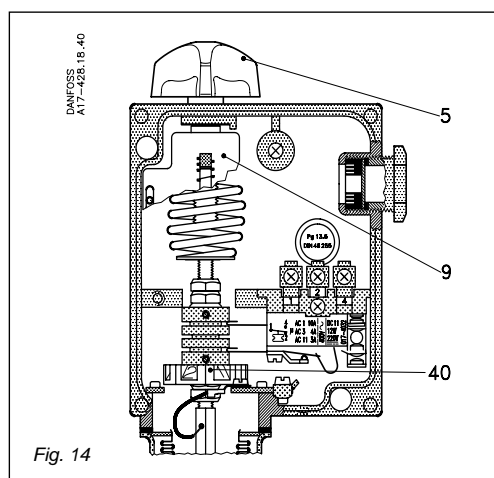
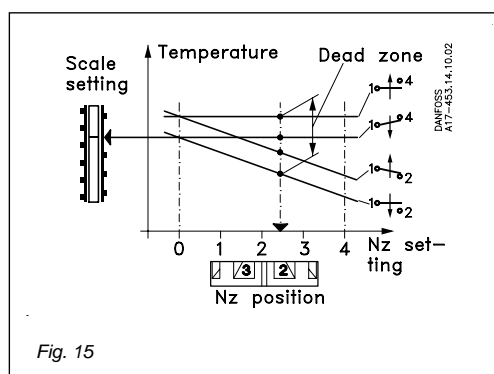
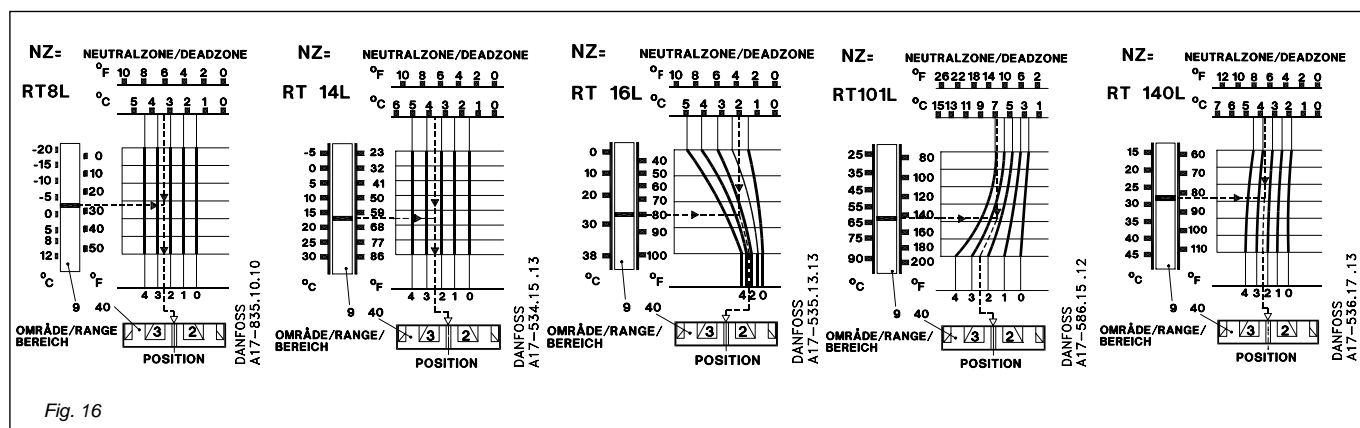

Fig. 14
Fig. 15
Fig. 16
The range is set using the setting knob (5), fig. 14, while reading the main scale (9). The set value is the break temperature for contacts 1-4, fig. 15. The required neutral zone can be found in the diagram for the unit concerned, fig. 16. The position at which the neutral zone disc (40) must be set can be read from the low scale in the diagram.
The dotted lines in the diagram for the RT 16L fig. 16 intersect each other on the curve for position 2.8 and the neutral zone setting disc (40) must be set to that position.